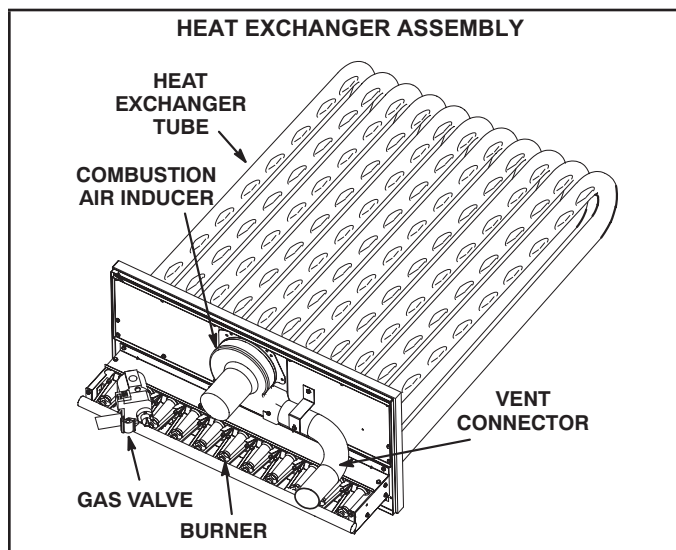

FIGURE 35
- 3 - Remove and retain screws securing combustion air inducer to flue box. Remove and retain two screws from bracket supporting vent connector. See FIGURE 35.